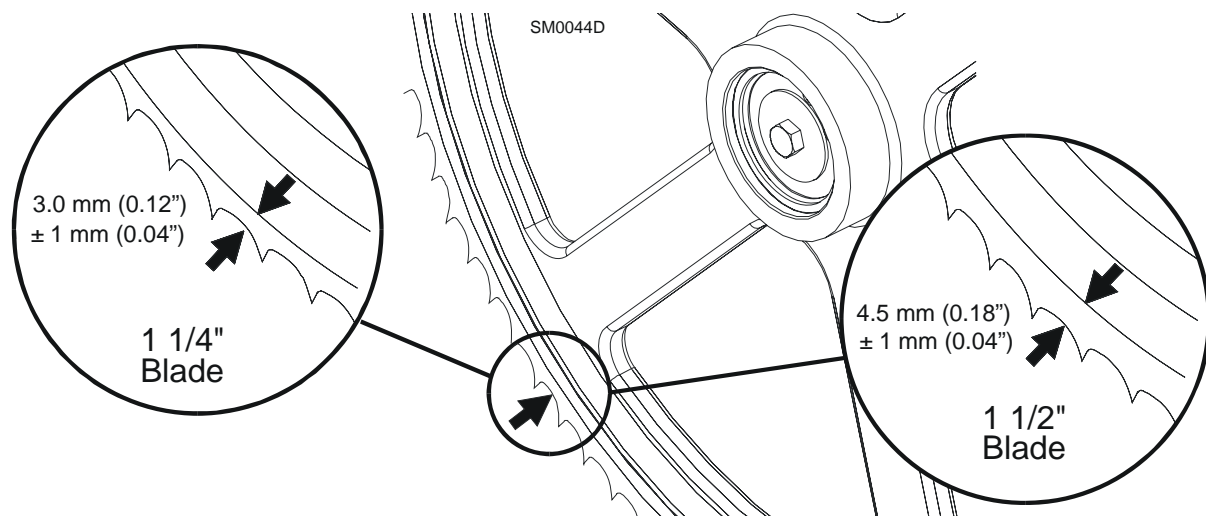

FIG. 2-9
**See Figure 2-9.** Position 1 1/4" wide blades so the gullet is 1/8" (3.0 mm) out from the edge of the blade wheel ( $\pm 1/16$  [1.5 mm]). Position 1 1/2" blades so the gullet is 3/16" (4.5 mm) out from the edge of the blade wheel ( $\pm 1/16$  [1.5 mm]).